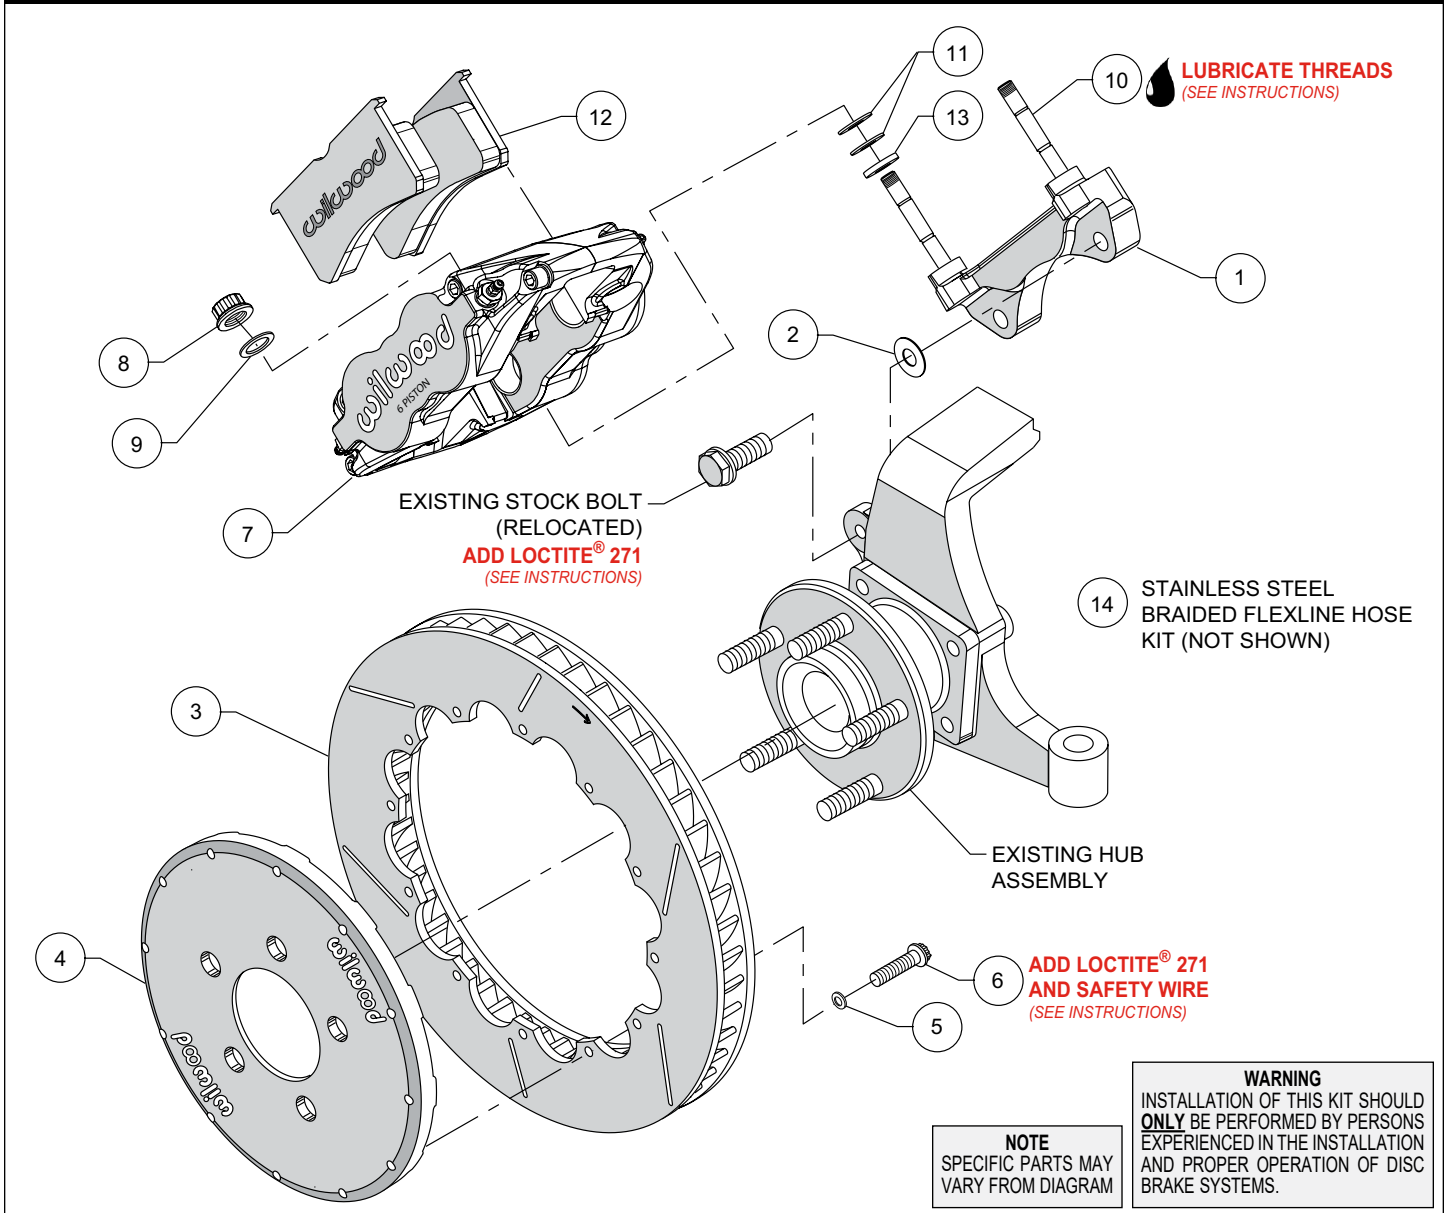
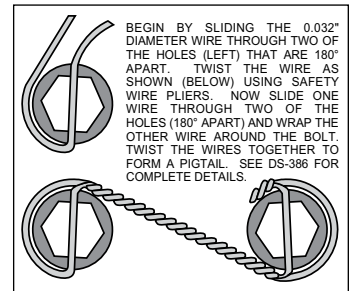

Figure 1. Typical Installation Configuration
Figure 3. Safety Wire Diagram
NOTE: Numbers in parenthesis refer to the parts list and Figure 1 on the preceding pages.
- The caliper mount bracket (1) should initially be installed with clean, dry threads on the mounting bolts. Orient the bracket as shown in Figure 1, and install using OEM bolts. Initially place one .033 thick shim (2) on each bolt between the bracket and upright, Figure 1. Temporarily tighten the mounting bolts. **NOTE:** The bracket must fit squarely against the mount bosses on the upright. Inspect for interference from casting irregularities, machining ridges, burrs, etc. Later, after the caliper alignment has been checked, the mount bolts will be secured using red *Loctite*® 271.
- Orient the rotor (3) and the hat (4) as shown in Figure 1 and Photo 1. Attach rotor to hat using bolts (6) and washers (5). Using an alternating sequence, apply red *Loctite*® 271 to the threads, and torque to 155 in-lbs. The bolts must be safety wired using standard 0.032 inch diameter stainless steel safety wire as shown in Figure 3. Please refer to Wilwood's data sheet DS-386 (available at www.wilwood.com/Pdf/DataSheets/ds386.pdf) for complete safety wire installation instructions.
- NOTE:** This kit contains distinct right and left hand calipers that must be mounted in a specific direction, as described below. Lubricate the caliper mounting studs (10) with lightweight oil. Initially place one .062" thick spacer (13) and two .035" thick shims (11) on each stud as shown in Figure 1 and Photo 2. Mount the caliper (7) onto the bracket (1) using lock nuts (8) and washers (9), Figure 1. Ensure that the caliper is mounted so that the largest pistons are at the rotor exit end of the caliper, in relation to the direction of rotor rotation. Temporarily tighten the lock nuts and view the rotor through the top opening of the caliper. The rotor should be centered in the caliper, Photo 3. If not, adjust by adding or subtracting shims (2) between the bracket and the upright. Always use the same amount of shims on each of the two mounting bolts. Once the caliper alignment is correct, remove the bracket mounting bolts one at a time, apply red *Loctite*® 271 to the threads, and torque to 60 ft-lb.